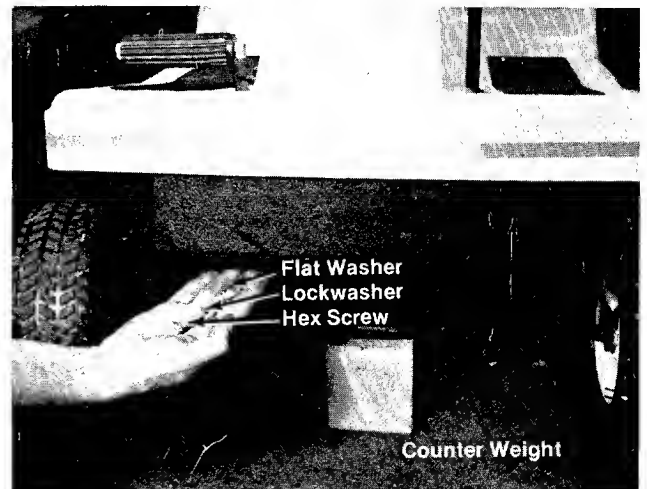

FIGURE 3
2. Secure the weight to mower with hex screws (J), flat washers (K) provided in hardware pack. See figure 3.